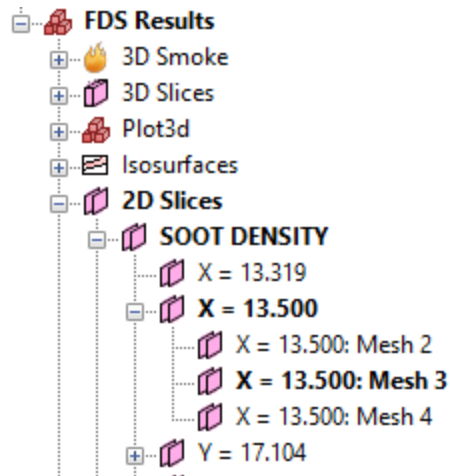

Figure 57. Activated 2D slice in the Navigation View
- In the Navigation View, the label for the object becomes **bold**. In addition, all the parent nodes of the object become bold as well. For example, if **SOOT DENSITY slice X = 13.5000 : Mesh 3** is activated, the Navigation View will appear as shown in Figure 57. This makes it easy to see which items in a hierarchy are currently active even if a node is collapsed.